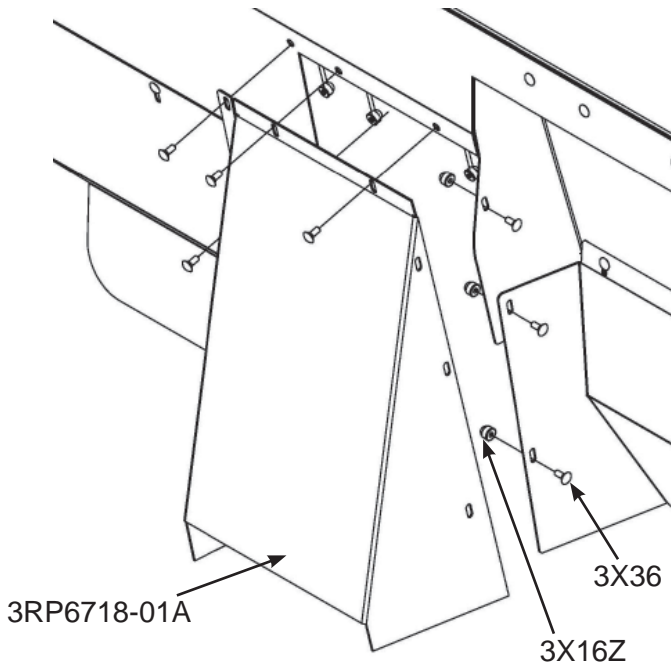

Fig. 6
- C. Locate and fasten recess panel (3RP6718-01A) using (3X36) bolts and (3X16Z) whiz nuts. (Fig. 6)